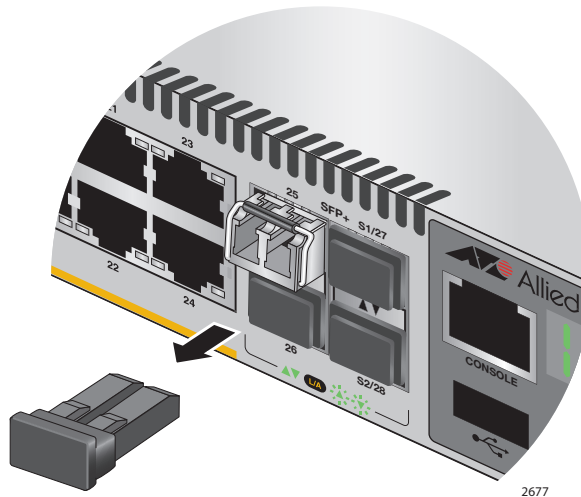

Figure 72. Removing the Dust Cover from an SFP or SFP+ Transceiver
5. Remove the dust cover from the transceiver, as shown in Figure 72.